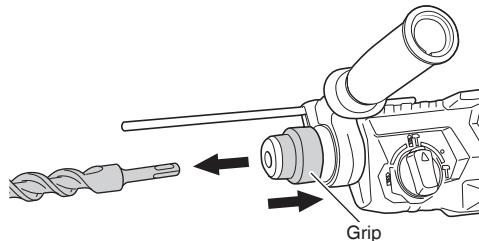

Fig. 2
(3) Check the latching by pulling the tool.
(4) To remove the tool, fully pull the grip in the direction of the arrow and pull out the tool (Fig. 2).